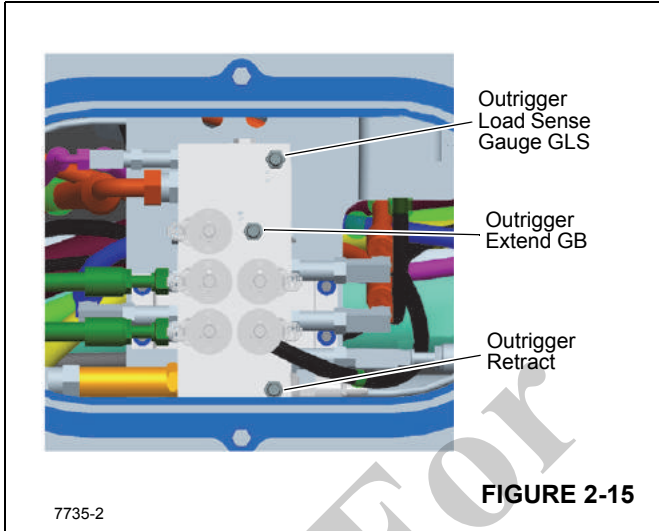

FIGURE 2-15
- a. Install a 345 bar (5000 psi) minimum gauge in the GB gauge port on the front outrigger manifold. See (Figure 2-15).